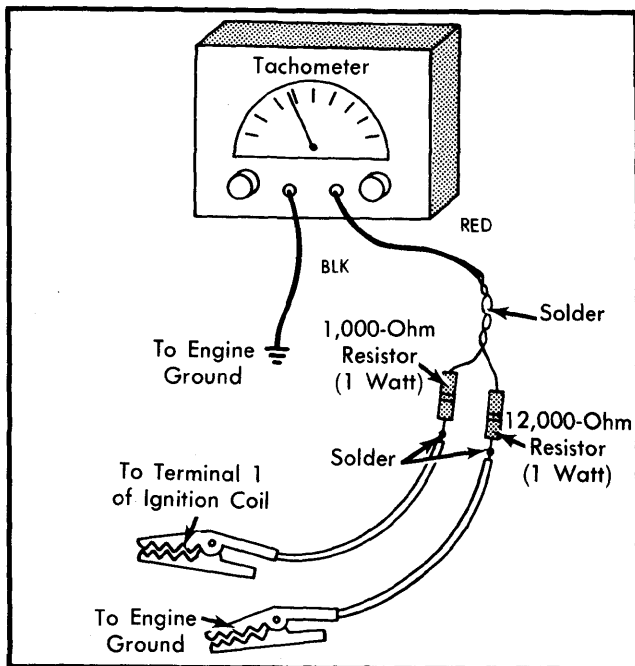

Fig. 2 Assembling Tachometer Adapter
1) An adapter is necessary when attaching a conventional tachometer into the Hall Effect electronic ignition system. See Fig. 2. Tachometer black lead is attached to engine ground. Attach adapter to tachometer red lead.